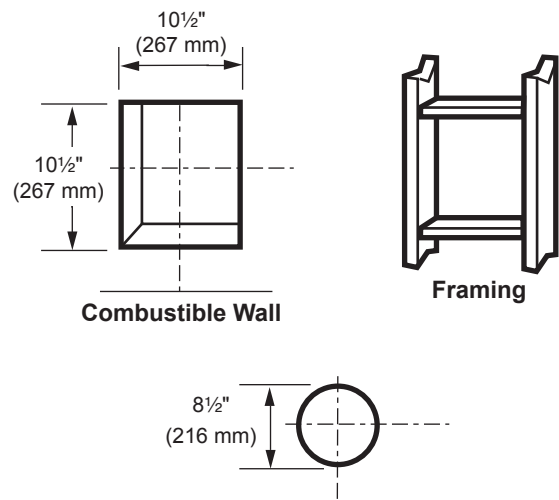

Figure 16 -
Combustible Exterior Walls: Cut a 10½"H x 10½"W (267 x 267 mm) square hole through the exterior wall frame. *Figure 16*
4. The center of the hole should align with the center line of the horizontal rigid vent pipe end. Allow 1/4" minimum rise per foot. *Figure 16*